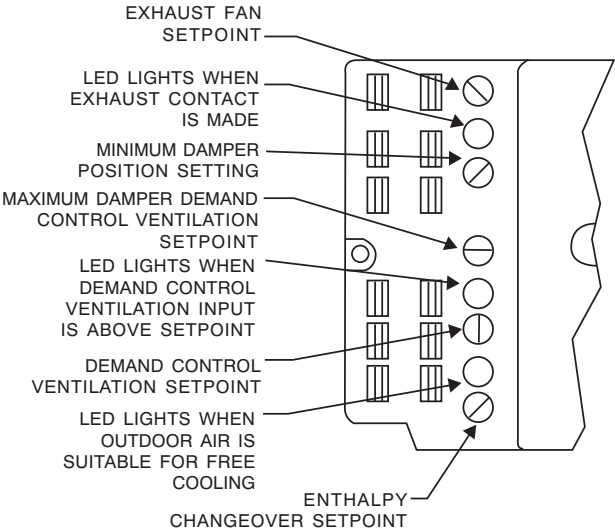
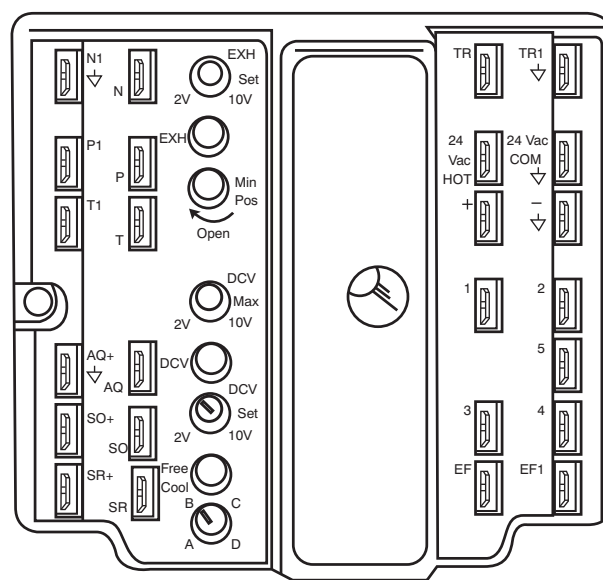
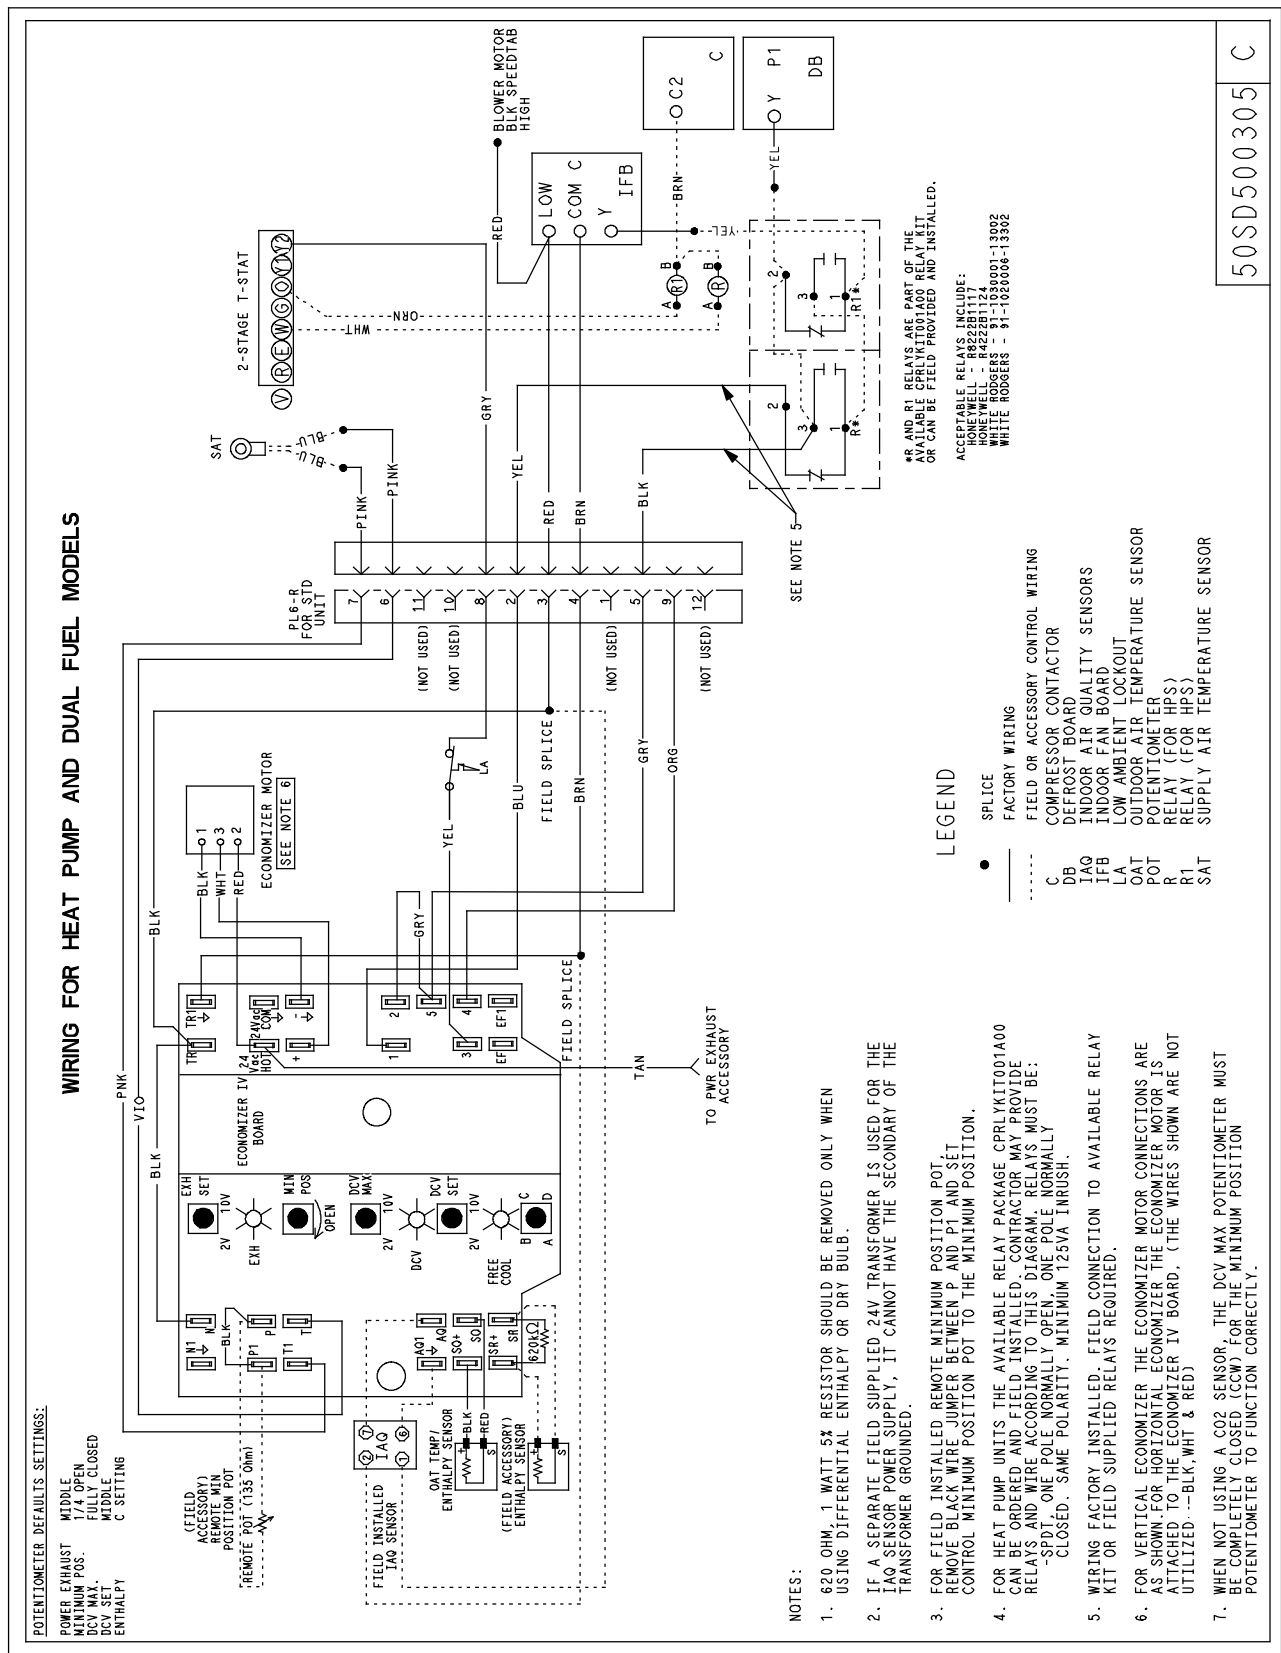

Fig. 38 - Economizer Controller Potentiometer and LED Locations
Fig. 43 - Economizer Controller
Fig. 44 - Economizer Wiring Diagram
In this mode of operation, the outdoor-air temperature is compared to the return-air temperature and the lower temperature airstream is used for cooling. When using this mode of changeover control, turn the free cooling/enthalpy set point potentiometer fully clockwise to the D setting. See Fig. 38 and Fig. 43.
When the outdoor air enthalpy rises above the outdoor enthalpy changeover set point, the outdoor-air damper moves to its minimum position. The outdoor enthalpy changeover set point is set with the outdoor enthalpy set point potentiometer on the Economizer controller. The set points are A, B, C, and D. See Fig. 41. The factory-installed 620-ohm jumper must be in place across terminals SR and SR+ on the Economizer controller. See Fig. 43 and Fig. 44.
EXHAUST SET POINT ADJUSTMENT—The exhaust set point will determine when the exhaust fan runs based on damper position (if power exhaust is installed). The set point is modified with the Exhaust Fan Set Point (EXH SET) potentiometer. See Fig. 44 for Wiring Diagram. The set point represents the damper position above which the exhaust fans will be turned on. When there is a call for exhaust, the Economizer controller provides a 45 ± 15 second delay before exhaust fan activation to allow the dampers to open. This delay allows the damper to reach the appropriate position to avoid unnecessary fan overload.
MINIMUM POSITION CONTROL — There is a minimum damper position potentiometer on the Economizer controller. See Fig. 38 and 44. The minimum damper position maintains the minimum airflow into the building during the occupied period. When using demand ventilation, the minimum damper position represents the minimum ventilation position for VOC (volatile organic compound) ventilation requirements. The DCV Max potentiometer must be fully closed (CCW) to allow the Minimum Position potentiometer to function correctly.
3. Ensure that the factory-installed jumper is in place across terminals P and P1. If remote damper positioning is being used, make sure that the terminals are wired according to Fig. 44 and that the minimum position potentiometer is turned fully clockwise.
Remote control of the Economizer damper is desirable when requiring additional temporary ventilation. If a field-supplied remote potentiometer (Honeywell part number S963B1128) is wired to the Economizer controller, the minimum position of the damper can be controlled from a remote location. To control the minimum damper position remotely, remove the factory installed jumper on the P and P1 terminals on the Economizer controller. Wire the field-supplied potentiometer to the P and P1 terminals on the Economizer controller. See Fig. 43 and Fig. 44.